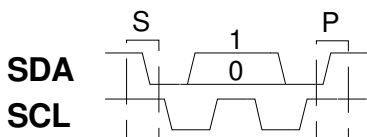

Figure 3. I²C[®] bus protocol definitions
Figure 3 shows the start (S) and stop (P) bits and a
Each serial bus operation, like write, starts with the start (S) bit (see figure 3). After start (S) the MAS6502 device address with write bit (AW, see table 7) is sent followed by an Acknowledge (A). After this the ADC control register address (see
table 1) is sent and followed by an Acknowledge (A). Next the ADC control register data (DC, see table 2) is written and followed by an Acknowledge (A). Finally the serial bus operation is ended with a stop (P) command (see figure 3).